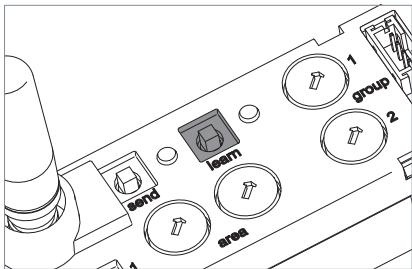

Fig. 16: "learn" key.
- ▶ Press the "learn" key and keep it depressed for two seconds, see Fig. 16. The "learn" LED is flashing.
- ▶ Press the "learn" key and keep it depressed for five to ten seconds until the "learn" LED starts flashing quickly, see Fig. 16.